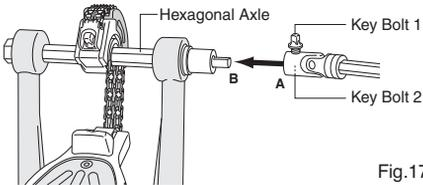

Fig.17
Use same method with (left) pedal (Fig.17). To ensure proper connection of the drive shaft rotate the Hexagonal Axle to have the flat surface of the short extension (B) facing upwards to fit into Joint (Fig.17).